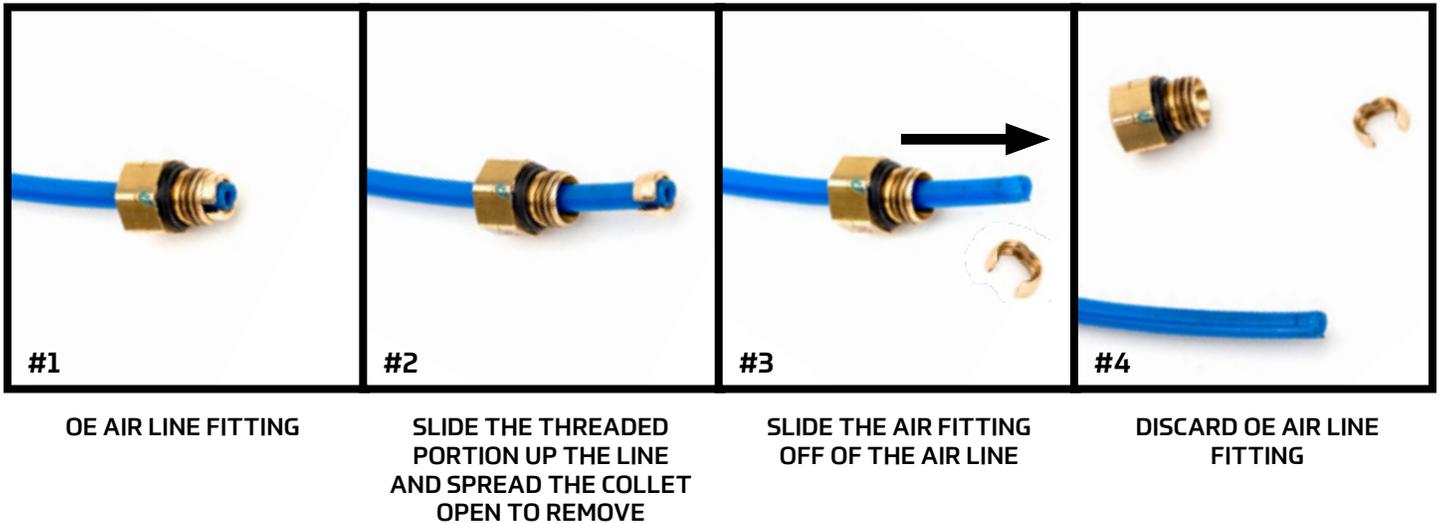

FIGURE 21
6. Prepare the existing air line by removing the old air fitting, using the figure below as an example. (Figure 21)